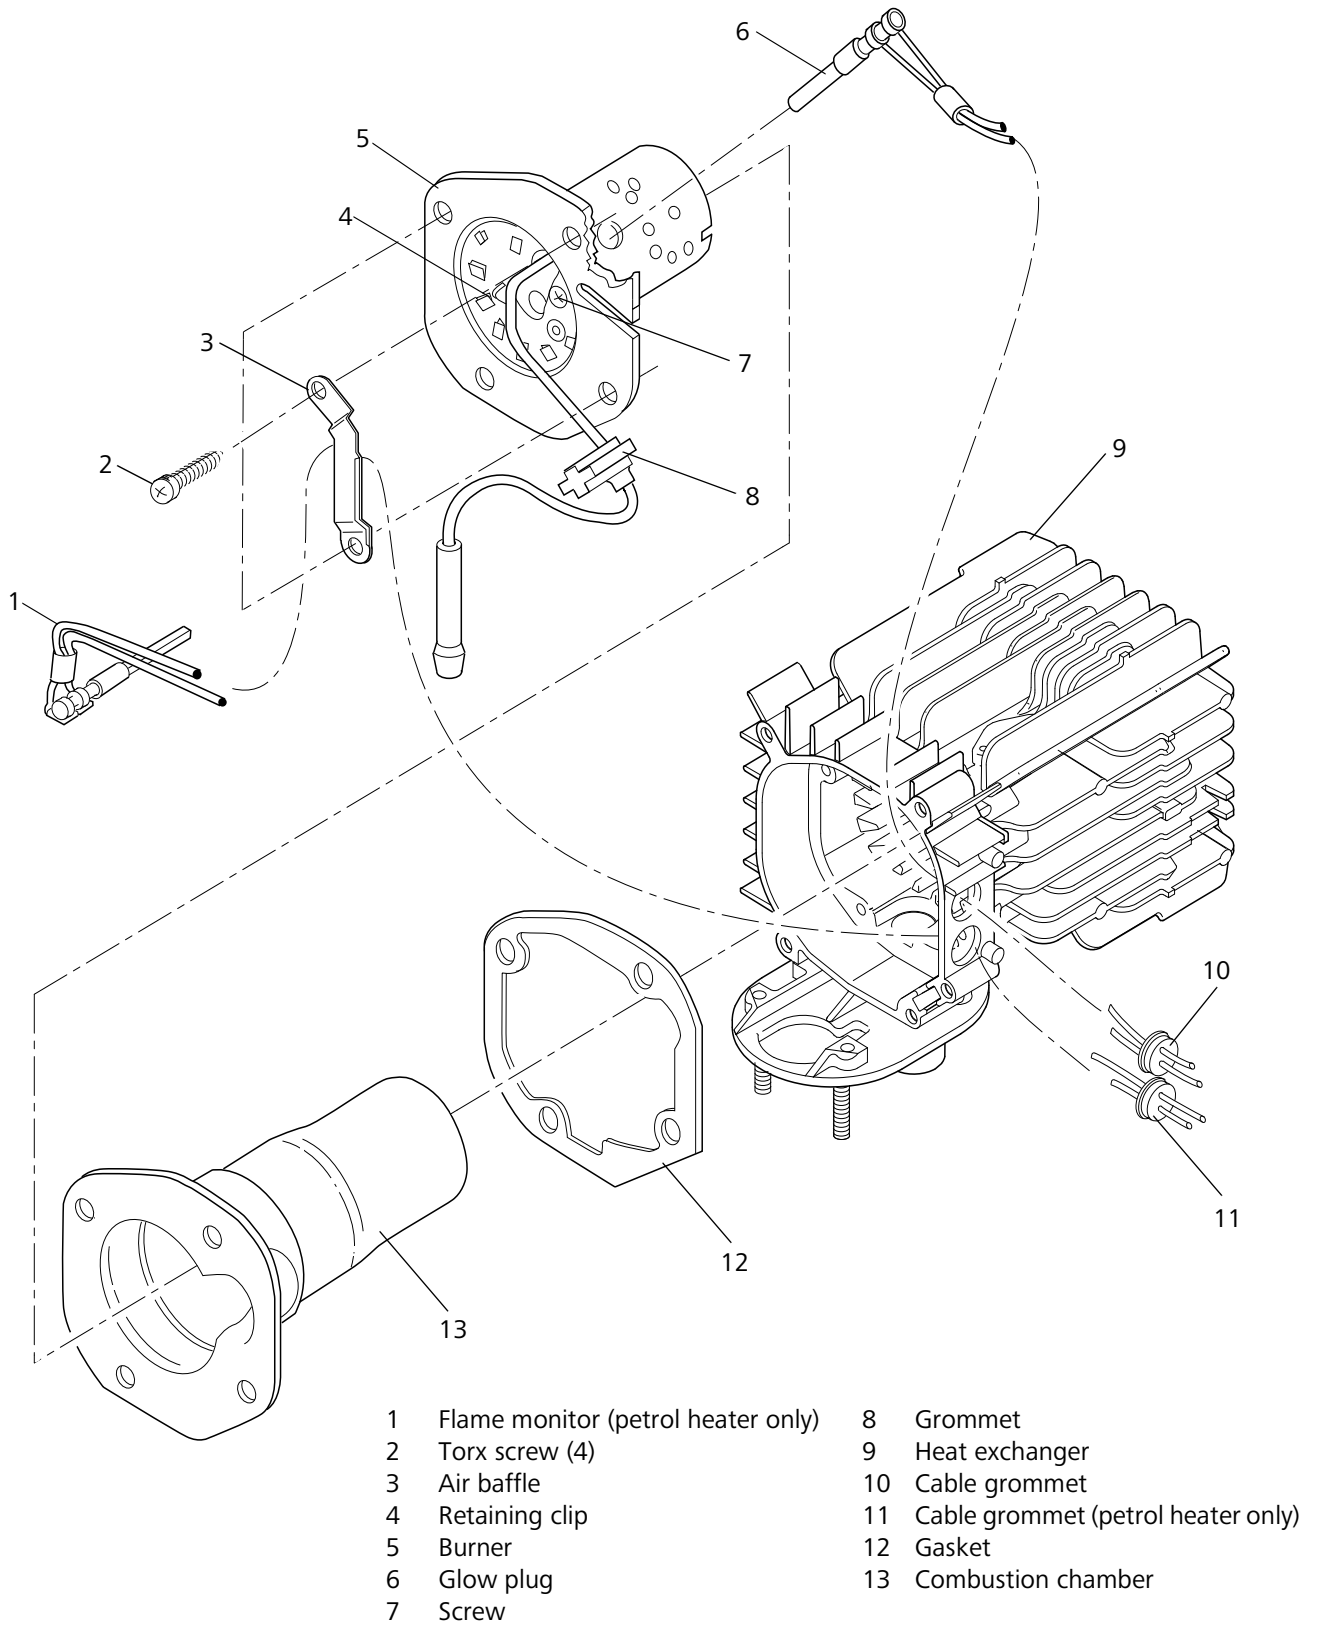

Fig. 904 Changing glow plug, replacing flame monitor, burner and heat exchanger
1. Push flame monitor (1, Fig. 904) through under the fuel line, guide the connector through the hole in heat exchanger (9) and press cable grommet (11) from the inside into the heat exchanger (9).
2. Route cable with protective sheathing through retaining clip (4) and fit flame monitor (1) in burner (5).
3. Press retaining clip (4) back together.
4. Secure air baffle (3) with screws (2).
5. Tighten screws (2) to  $6 \pm 0.6$  Nm.
5. Press cable grommet (10, Fig. 904) inwards and out of heat exchanger (9).
6. Remove four screws (2) and air baffle (3).
1. Fit new gasket (12, Fig. 904) in heat exchanger (9) and place combustion chamber (13) in assembly position.
2. Make sure that the starting air hole in the burner (5) is clear.
8. Remove burner (5, Fig. 904).
9. Remove combustion chamber (13) and gasket (12) from heat exchanger (9) and dispose of gasket (12).